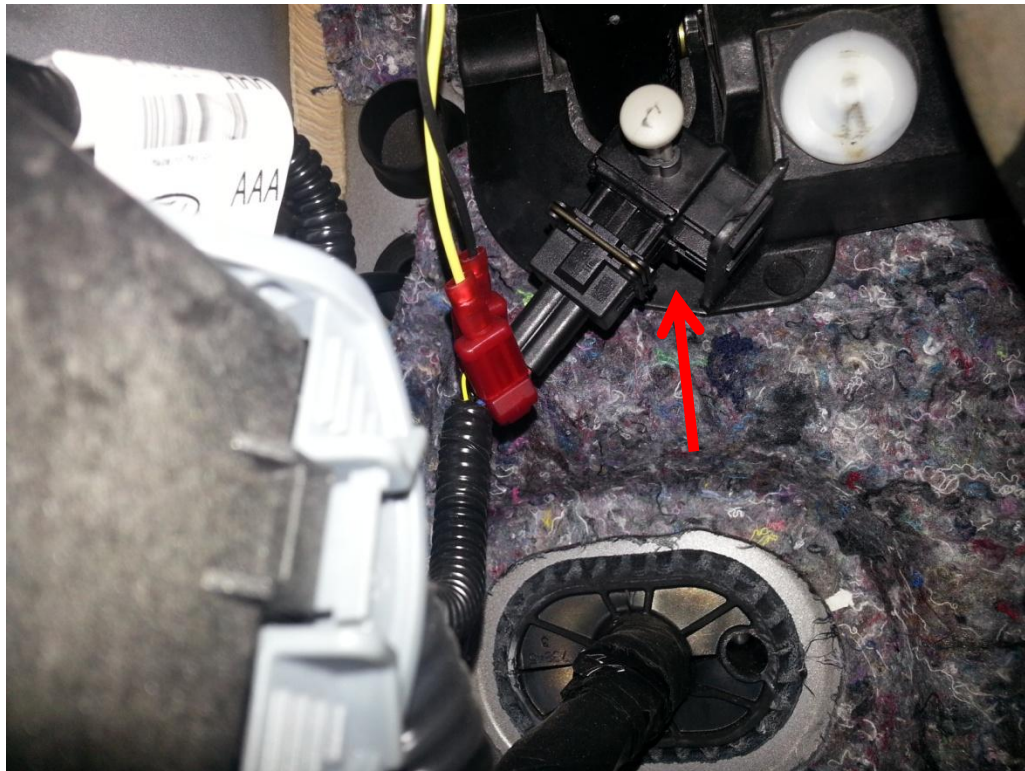

Figure 1 (Clutch Interlock Sensor)
1. Attach supplied wiretap to the **black** wire on the clutch safety interlock sensor (**Figure 1**).
3. Attach supplied wiretap to the **yellow/tan** wire on the clutch safety interlock sensor (**Figure 1**).